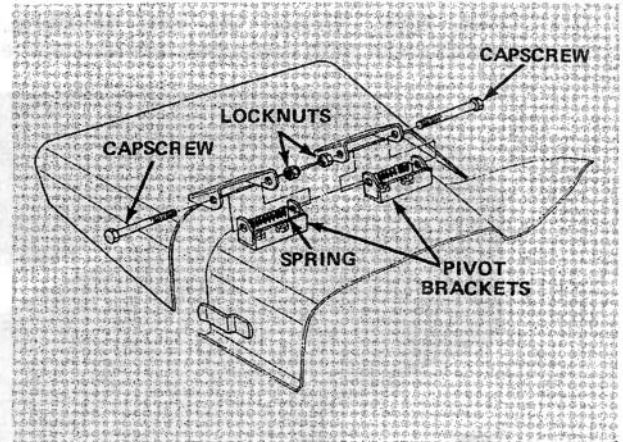

Figure 102
2. Remove two capscrews, locknuts and springs securing deflector mounts to pivot brackets (Fig. 102).
3. To remove the pivot brackets, remove carriage bolts, lockwashers and nuts (Fig. 102).